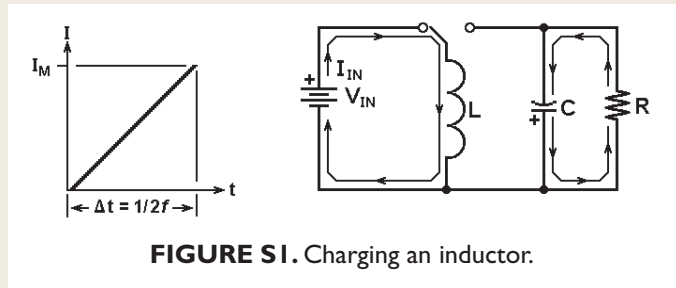

FIGURE S1. Charging an inductor.
Like capacitors, inductors can be charged up. **Figure S1** shows a DC voltage applied to an inductor via a switch. Current ( $I_{IN}$ ) will increase according to  $I = (V/L) \times \Delta t$  where  $\Delta t$  is the length of time the inductor is charging. At maximum current ( $I_M$ ), the inductor stores energy (W) given by  $W = (L I_M^2) / 2$ . The energy is stored in the magnetic field around the inductor.